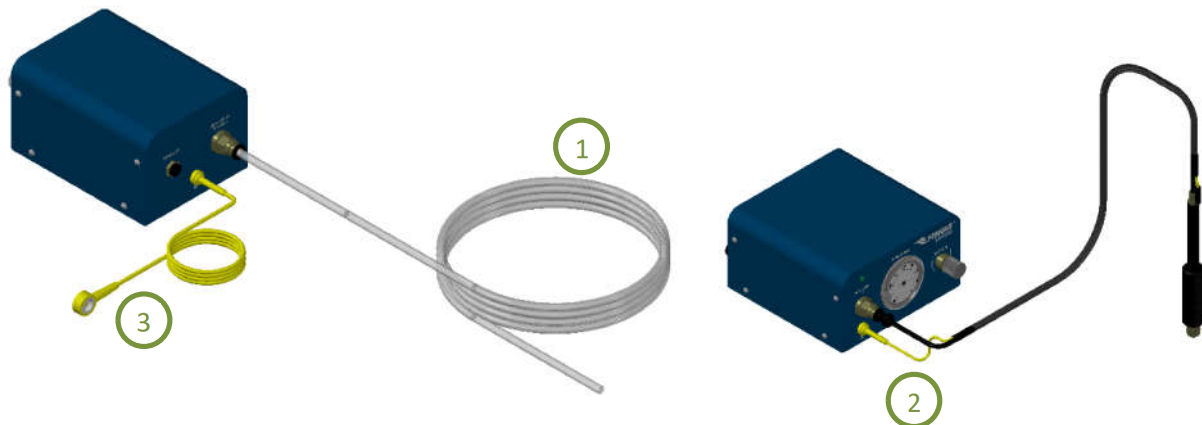

FIG. 4: Machine Setup
1. Connect air hose (1) from compressed air 70-100 psi (5-7 bar) to the air inlet port on the back of the machine. See FIG. 4.
2. Insert the air connector and ESD grounding plug (2) from the vacuum pickup pen to the ports on the front of the machine. See FIG. 4.
3. Insert the ESD grounding cable (3) into the port on the back of the machine. The other end of the cable is to be connected to a suitable common ESD Safe grounding point within the workplace environment. See FIG. 4.